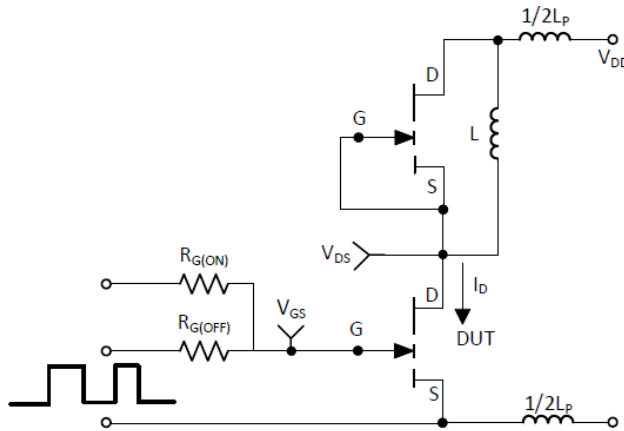

Figure 17: Switching Loss Test Circuit
(8) See Figure 17 for switching loss test circuit.